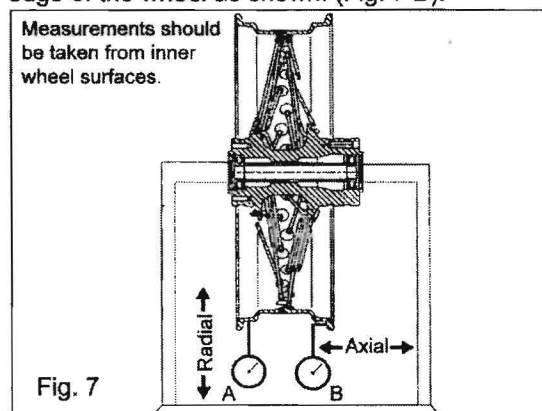

Fig. 7
4. Measure wheel for radial runout (Fig. 7 A).
5. Inspect the wheel for axial runout, measured on inside edge of the wheel as shown. (Fig. 7 B).